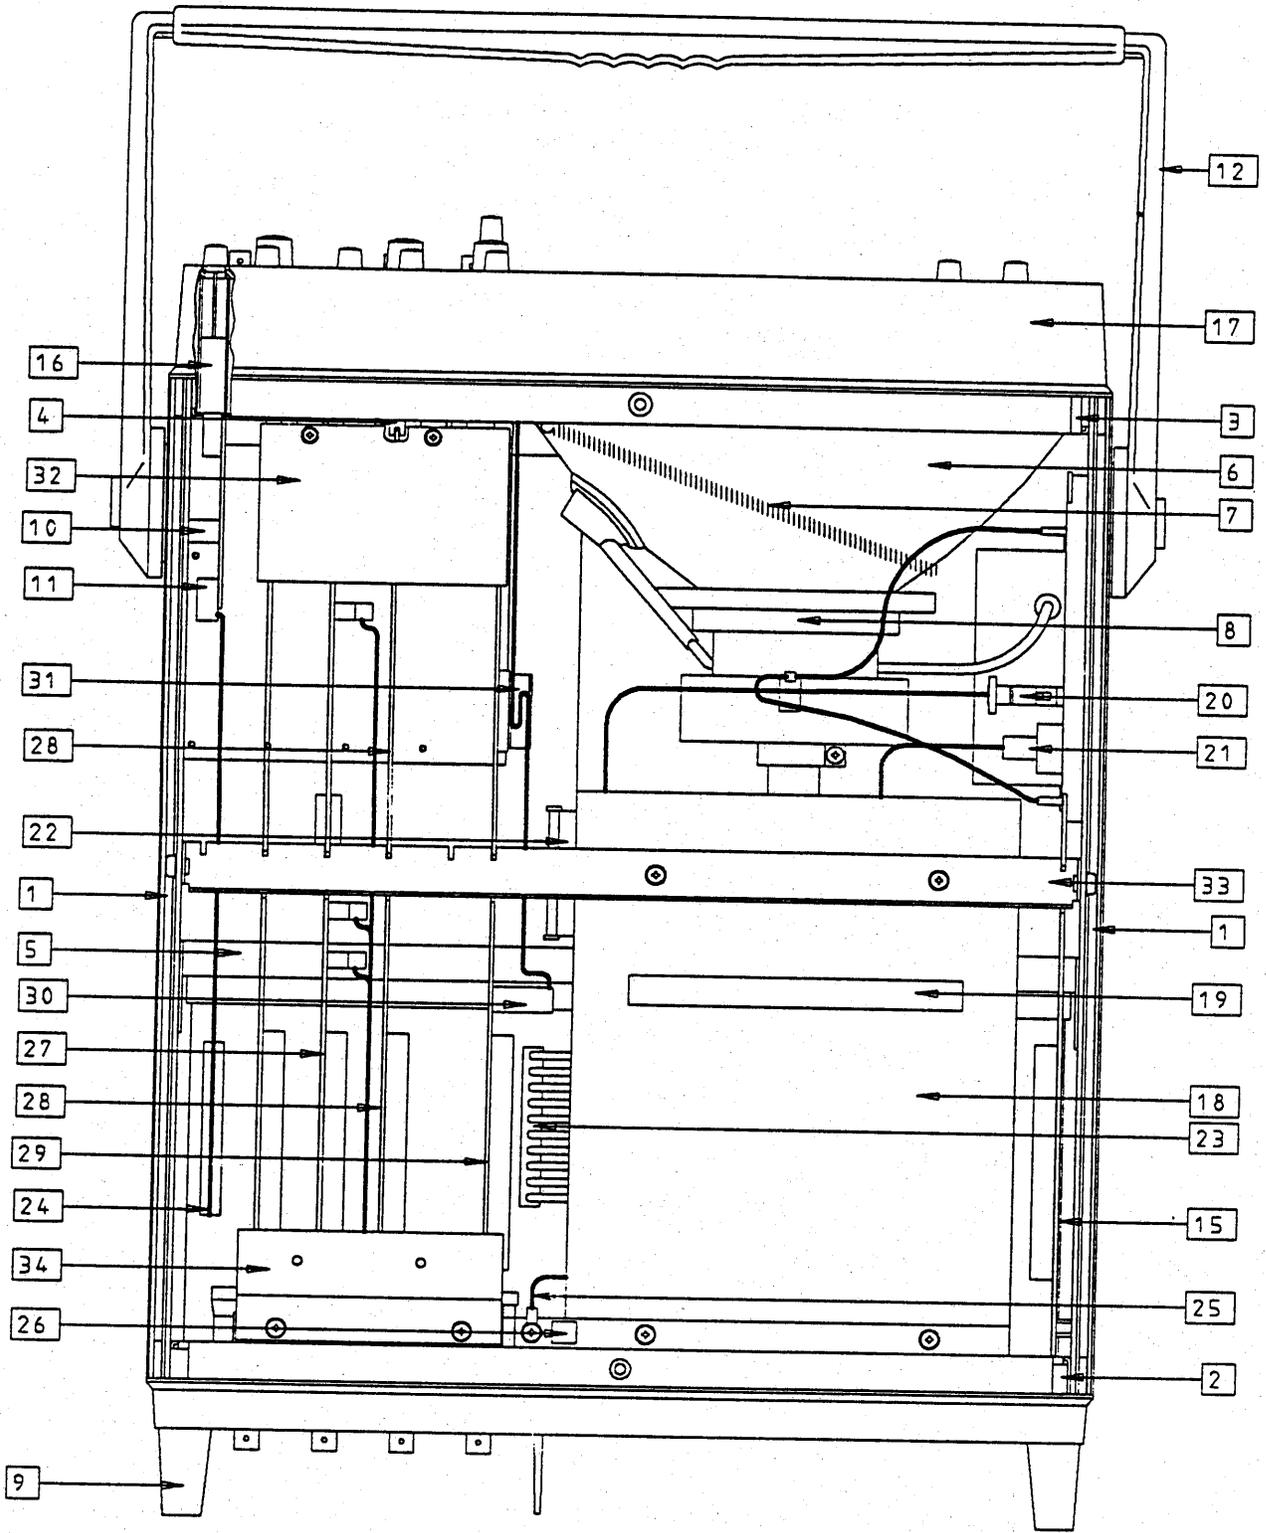

Figure 4.1
The disassembly and assembly procedures detailed below refer to the assembly and disassembly diagram and the view of figure 4.1.,4.2.,4.3.
The top (37) and bottom (36) covers are each secured by four M4X8 screws and washers. To remove the bottom (36) cover turn the handle (12) to the forward position. See figure 4.1 and 4.2
The power supply support (33) and the card retainer (34) hold the F9450-2 (15), F9424-6 (29), F9420-3 (28) F9420-4 (27), and the F9451-1 (18) power supply in place and must be removed if any of these boards is to be removed. They are fixed with screws and washers see figure 4.1 and 4.2.